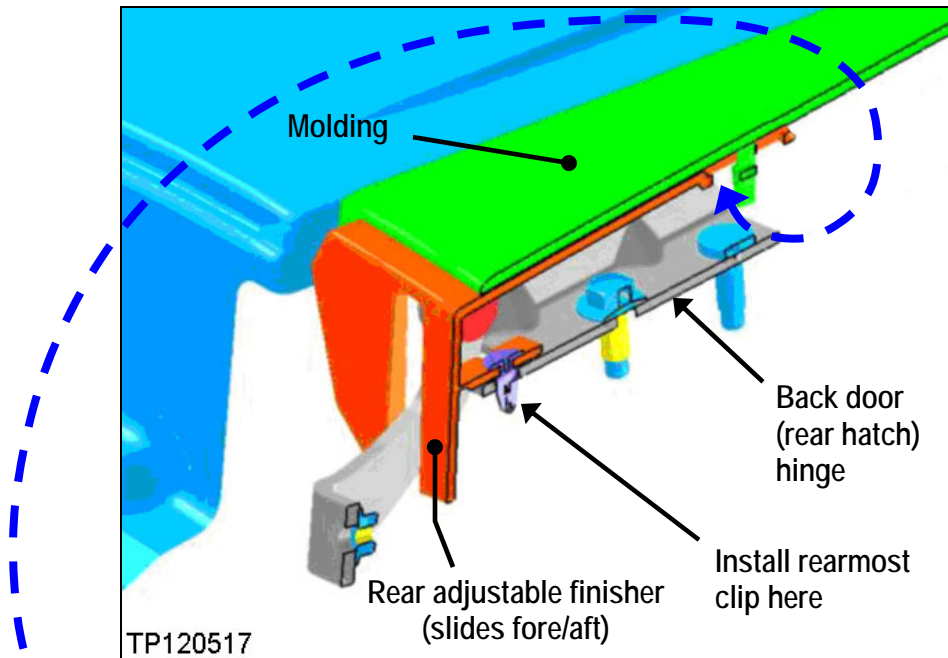

Figure 15
- After the parts have been painted, make sure the adjustable finisher at the rear of the molding moves freely (see page 8, step 4 and Figure 15).
**NOTE:** Before starting, make sure the adjustable finisher at the rear of the molding moves freely (see page 8, Figure 15).